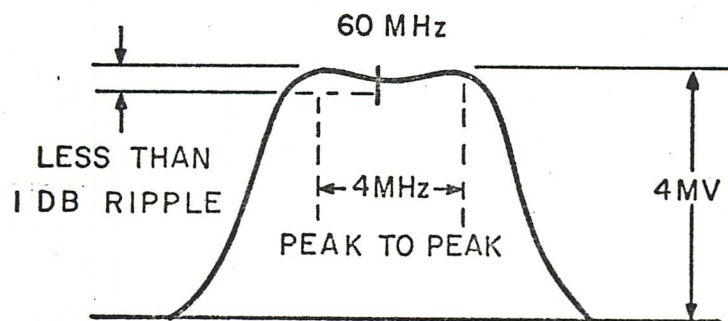

Figure 5-5. IF Output Response.
- (2) Adjust the front panel turn crank for a 500 MHz indication on the tuning tape.
- (3) Set the sweep generator and signal generator output frequency to 500 MHz.
- (4) Adjust the horizontal gain of the oscilloscope for full scale deflection.
- (5) Set the vertical gain to 1 millivolt per centimeter and the sweep generator output level for a 4 cm IF amplifier response on the oscilloscope.
- (6) Adjust the signal generator output level and the marker SIZE control on the sweep generator for a small "birdie" on the response.
- (7) Locate L8 and L9 on the top side of the RF tuner.
- (8) Adjust L8 and L9 for maximum symmetrical response, Figure 5-5.